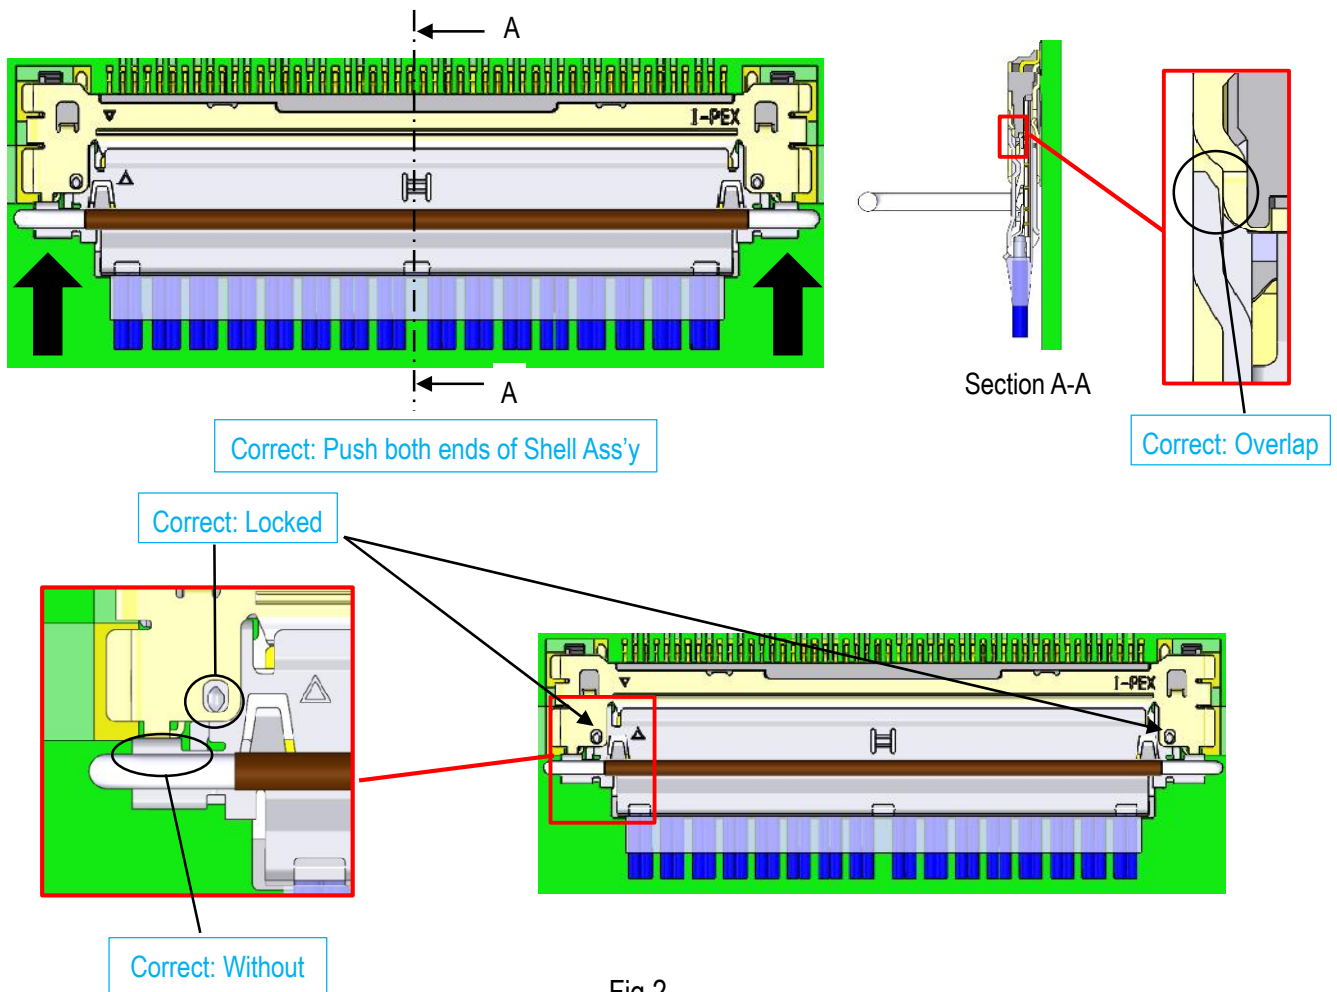

Fig.2
2. Push both ends of shell ass'y horizontally until the shell ass'y is locked as shown in Fig. 2.